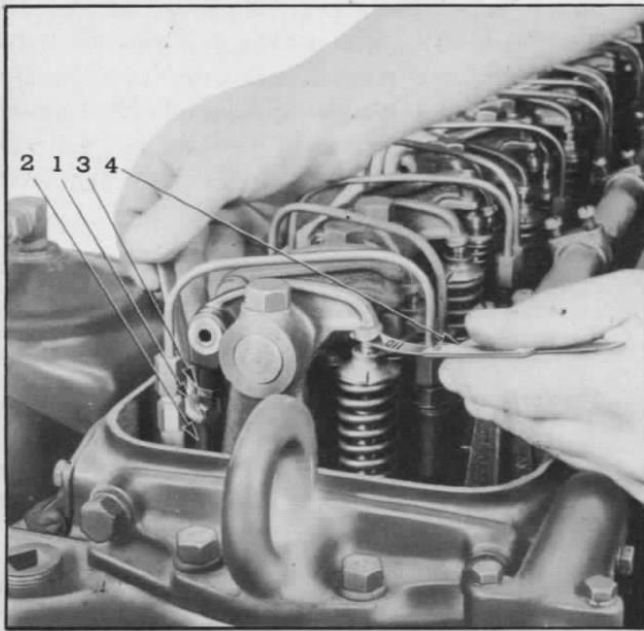

Fig. 30—Adjusting Valve Clearance
3. Refer to Fig. 30 and loosen lock nut (3) just below the end clevises on each of the two valve push rods. Insert .011" feeler of gauge KMO-233-B (4) between end of valve stem and rocker and adjust clearance to a light contact with the feeler by turning push rod clockwise to increase clearance and counterclockwise to decrease clearance.